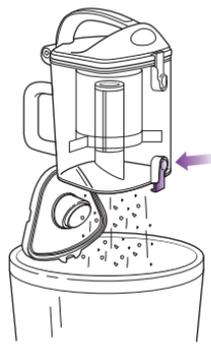

Fig. 18
- Hold the dust cup over a trash receptacle and press the bottom door release button. **(Fig. 18)** Tap gently to empty contents. Press the door shut again until it clicks.